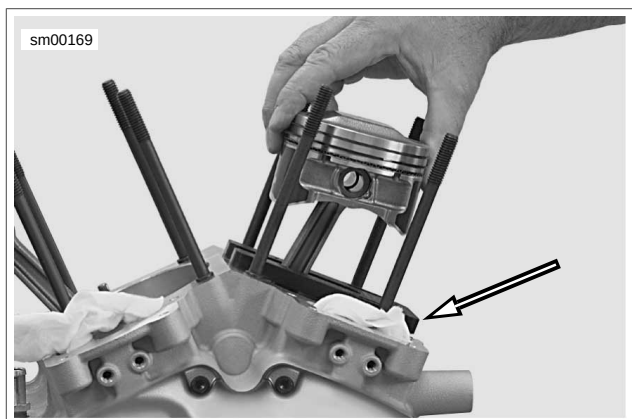

Figure 3-86. Piston Support Plate
1. See Figure 3-86. Place PISTON SUPPORT PLATE (Part No. HD-42322) in position as shown.